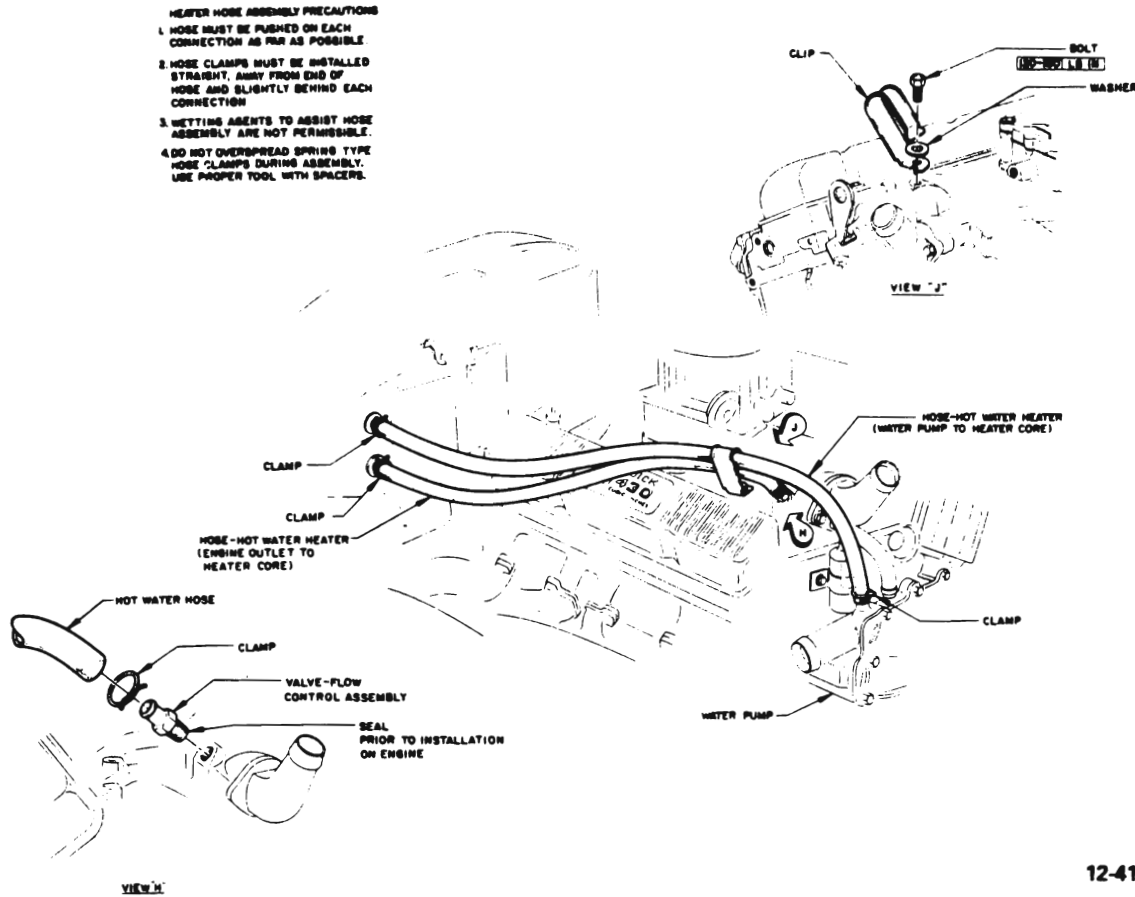

Figure 12-24 Heater Hose Installation
The coolant flows through the heater system as shown in Figure 12-24.
6. Disconnect heater inlet and outlet hoses at heater assembly. See Figure 12-24.